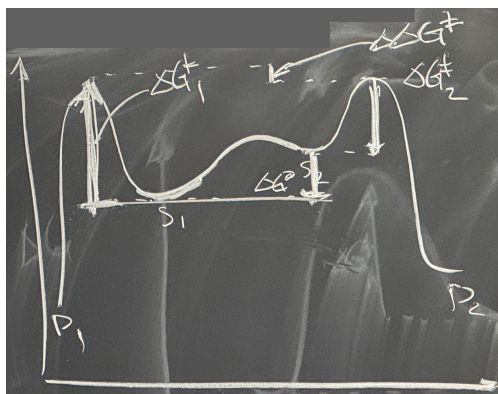

Figure 14.9: Curtin-Hammett selectivity derivation.
- And then referencing Figure 14.9, we can see pictorially that